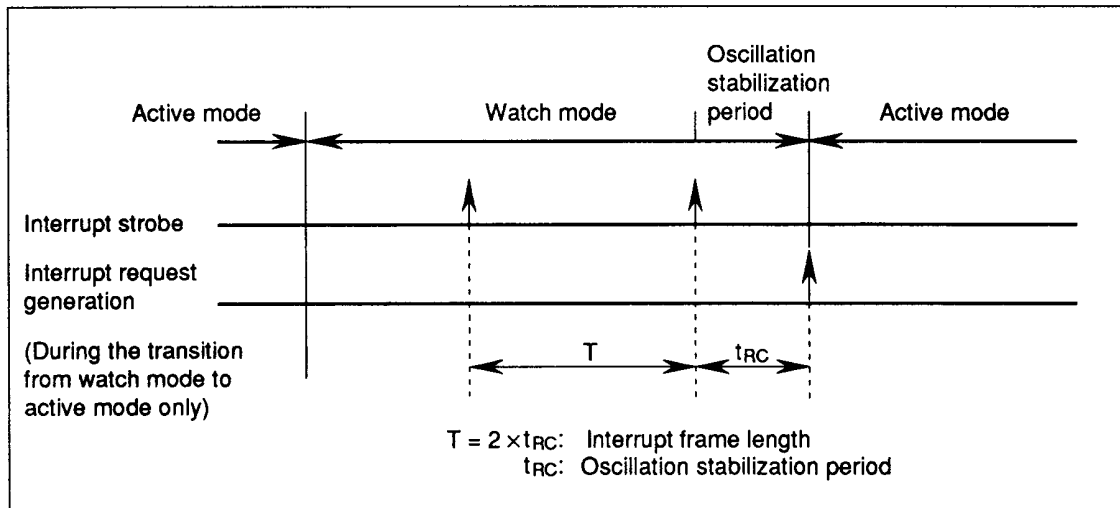
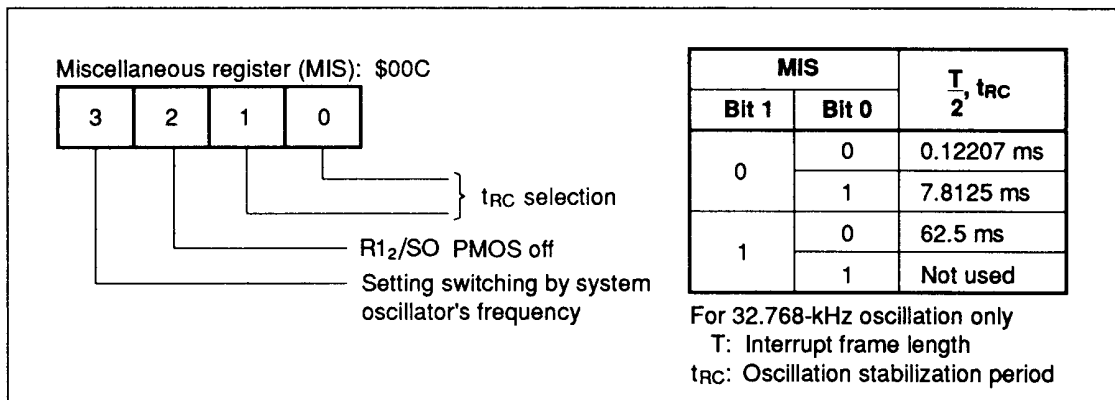

Figure 13 Interrupt Frame
Figure 14 Miscellaneous Register
Watch mode is terminated by a RESET input or a timer  $A/\overline{INT}_0$  interrupt request. For details of RESET input, refer to the Stop Mode section. When terminated by a timer  $A/\overline{INT}_0$  interrupt request, the MCU enters active mode if LSON is 0, or subactive mode if LSON is 1. Any interrupt request generated during the transition to active mode is delayed for half the interrupt frame period ( $t_{RC}$ ), to give the oscillation time to stabilize, as shown in figure 13.
**Interrupt Frame:** In watch and subactive modes, timer A and  $\overline{INT}_0$  interrupts are generated in synchronism with the interrupt frame. Three interrupt frame lengths (T) can be selected by settings of the miscellaneous register, as shown in figure 14. The time from an interrupt strobe to interrupt request generation is the oscillation stabilization period ( $t_{RC}$ ), as shown in figure 13.